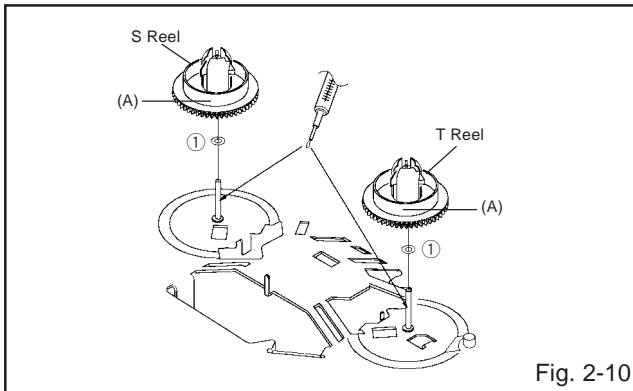

Fig. 2-10
## 2-10: S REEL/T REEL (Refer to Fig. 2-10)
4. Do not touch the section "A" of S Reel and T Reel. (Use gloves.) (Refer to Fig. 2-10) Do not adhere the stains on it.